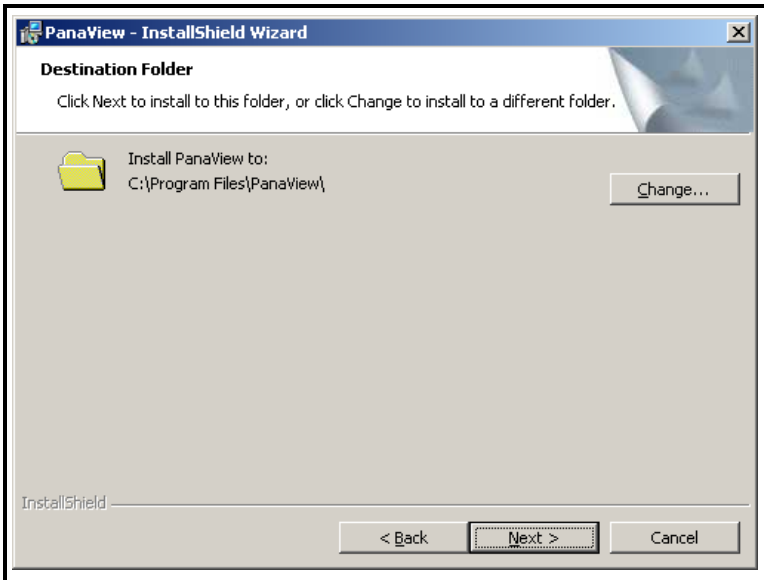

Figure 2-6: Choose Destination Location Screen
- Click on the [Next] button at the screen shown in Figure 2-6 below to accept the default directory for the PanaView files (recommended).